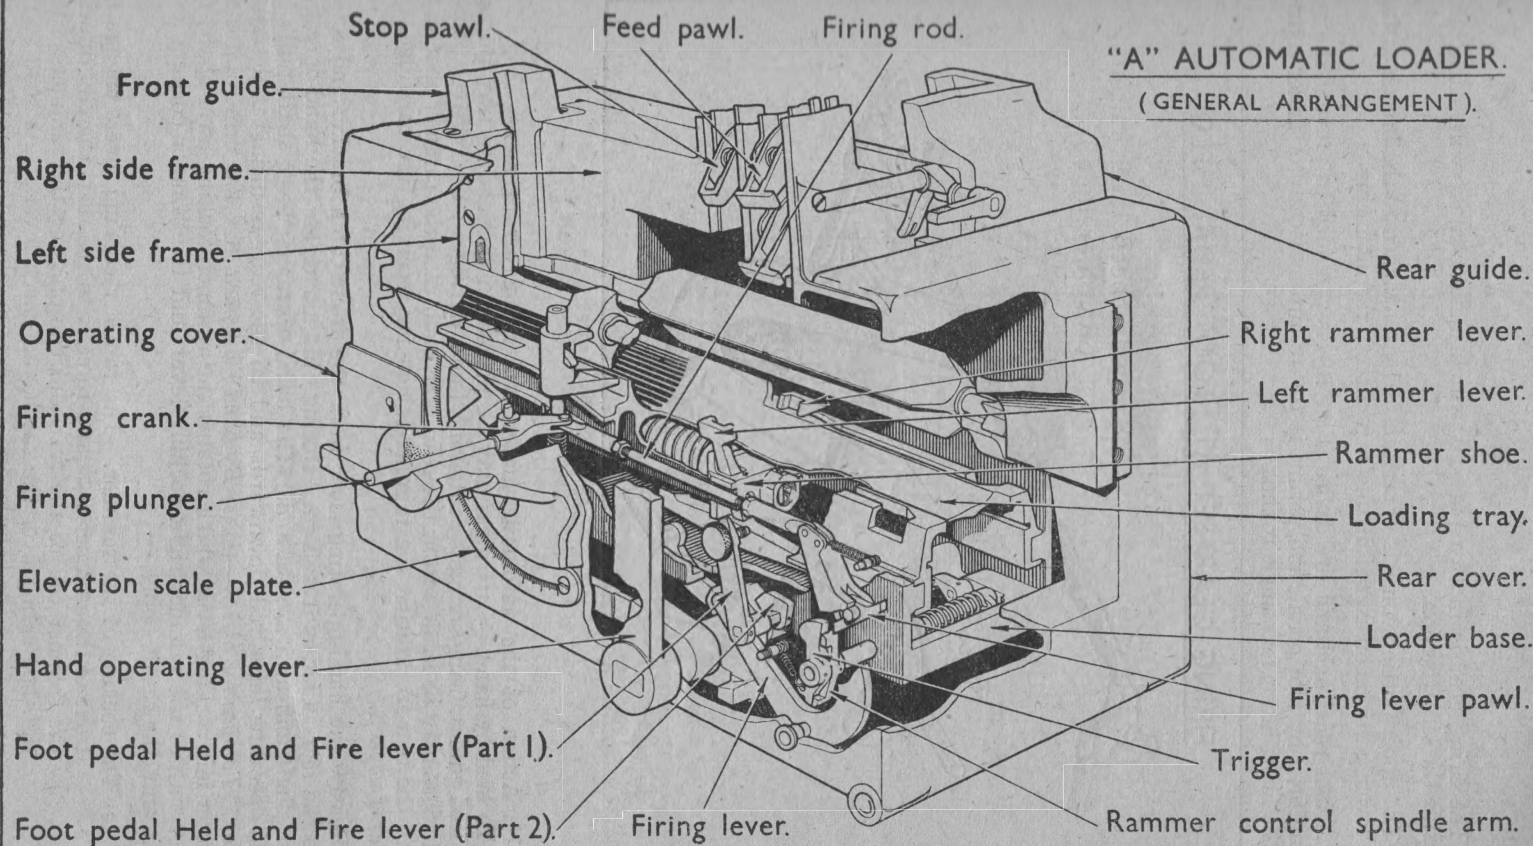

FIG. 9.
**9. Automatic loader "A."**—The automatic loader (Fig. 9) receives ammunition in chargers; it provides the means of loading single rounds on to a loading tray and ramming them into the chamber of the gun. It is housed in the rear part of the breech casing.